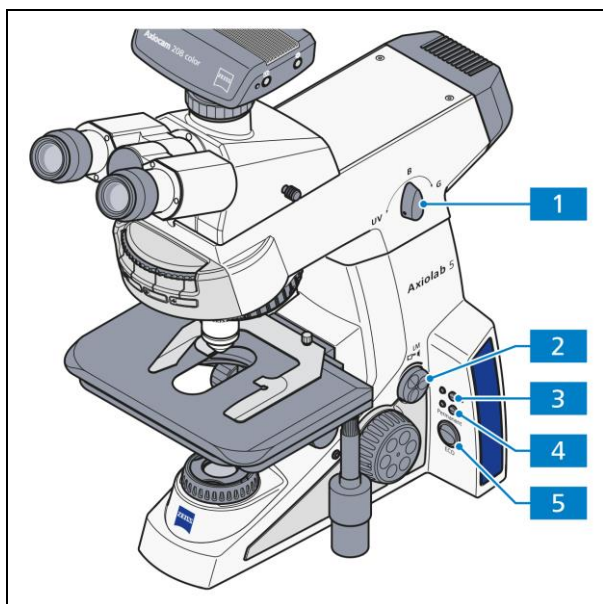

Fig. 3-33 Intensity/LM knob and illumination modes
- If available, select the transmitted or reflected light illuminator by pushing the **TL** (Fig. 3-33/4) or **RL** (Fig. 3-33/3) button.
- Adjust image brightness using the **Intensity/LM** knob (Fig. 3-33/2).
- Select **Permanent** or **ECO** mode (Fig. 3-33/5) for using the microscope illumination.
- Select the desired LED for fluorescence application using the LED selection knob (Fig. 3-33/1).